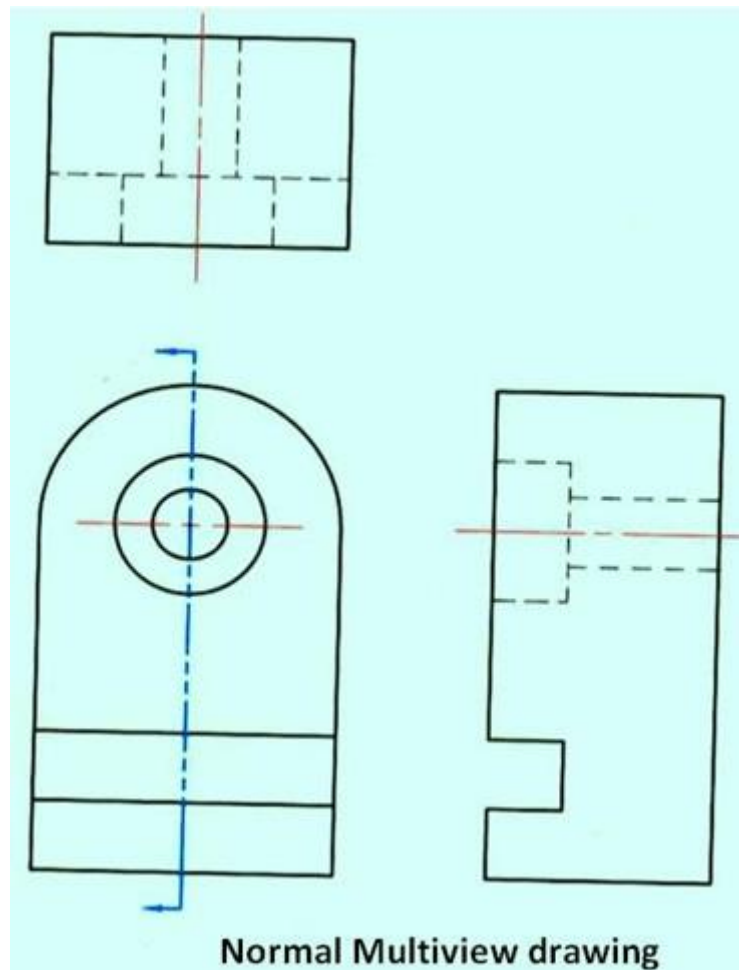

Figure 7 A multiview drawing of an object
- Figure 7 is multi-view drawing of a part that may be difficult to visualize in its 3-D form, because of the many hidden lines.